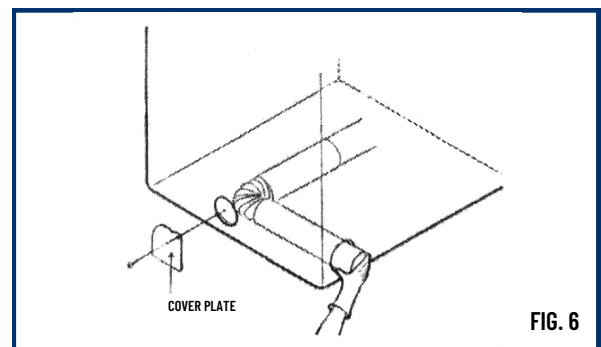

FIG. 6
9. Connect the standard metal elbows and ducts to complete the exhaust system as shown in (Fig. 6).